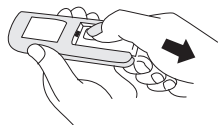

Fig 1
1. Slide the battery compartment cover. Fig.1
2. Open fuse cover. Slide open fuse access cover on top of attachment plug towards blades.(Fig. 1)